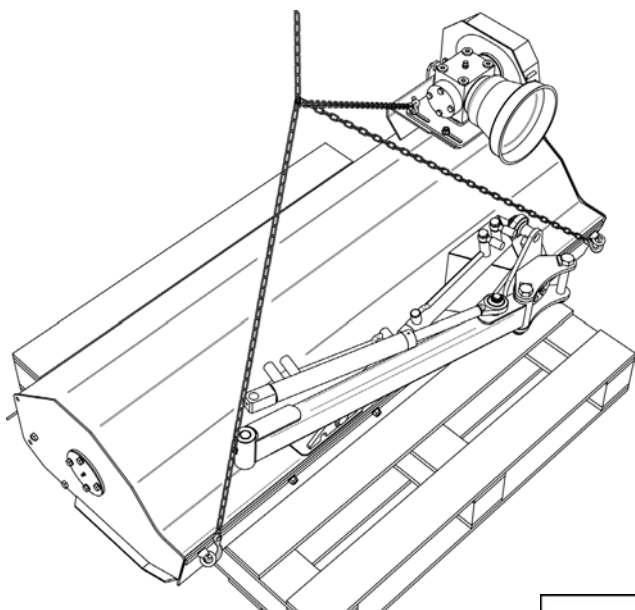

FIG. 4.6
- With this type of fastening (FIG.4.6) the machine tends to position itself horizontally and can then be placed carefully on the ground.